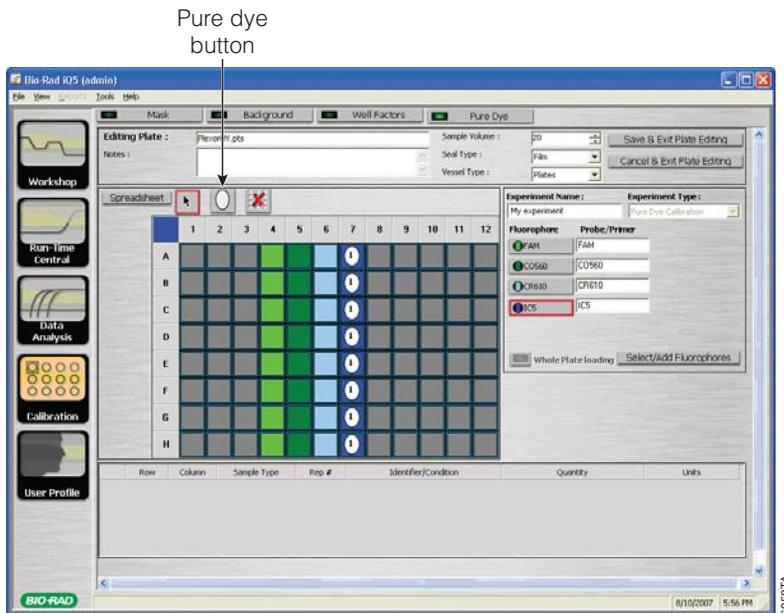

Figure 6. The Plate Setup Editor.
- c. In the Plate Setup Editor, specify the wells containing each dye (Figure 6).
- d. Specify “Sample Volume” (20), “Seal Type” and “Vessel Type”. Give the file an appropriate name (e.g., “PlexorHYPureDye”), then select “Save & Exit Plate Editing”.